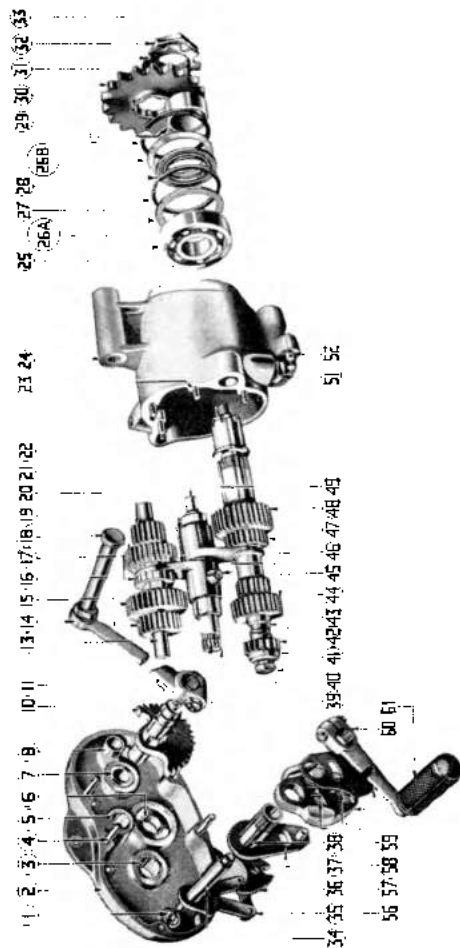

Fig. 13 Exploded view of Gearbox Assembly. (Type "BA")
2. DISMANTLING THE BOX (See Fig. 13)
The driving gear, ball bearing and rear sprocket are now left in the gearbox case. To remove these, hold the sprocket so that it cannot rotate and undo the large nut securing the sprocket to the driving gear sleeve. Note the special lock-washer fitted behind the nut. The driving gear will push through into the gearbox case whilst the ball bearing can be taken out after removing the bearing gland or oil seal, gland washers, etc. (See Fig. 13 for order of assembly).
(See Fig. 13)
3. REASSEMBLING THE BOX (See Fig. 13)